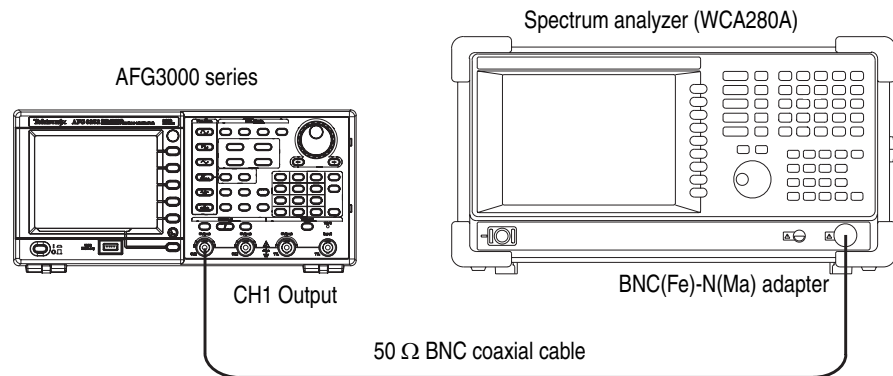

Figure 4-9: Spurious tests
1. Connect the arbitrary/function generator to the spectrum analyzer as shown in Figure 4-9.